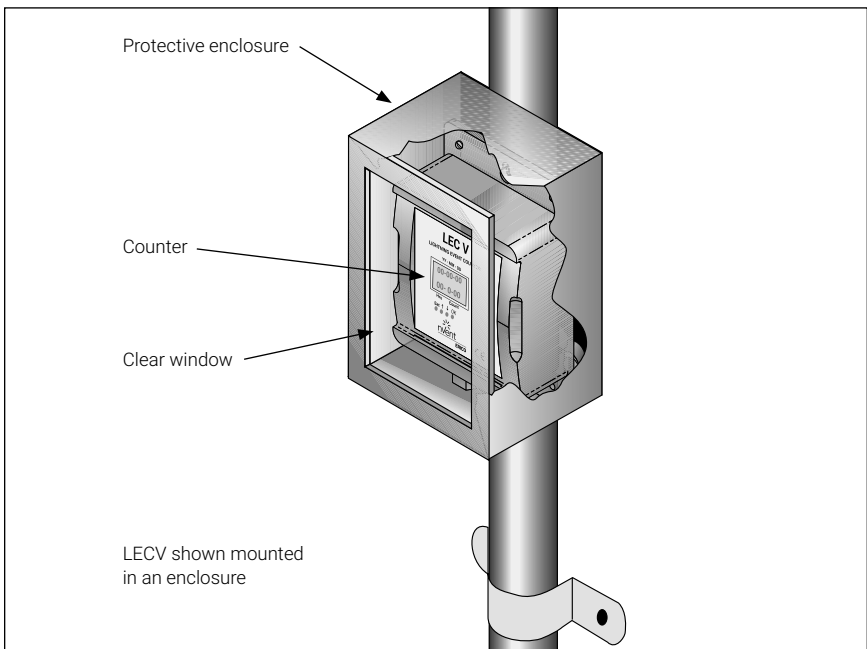

Figure 24: LECV in protective enclosure with clear viewing window, for easy counter reading
- If the LECV is to be encased in an additional enclosure, ensure that it is mounted to enable easy access to the display (see Figure 24 below).